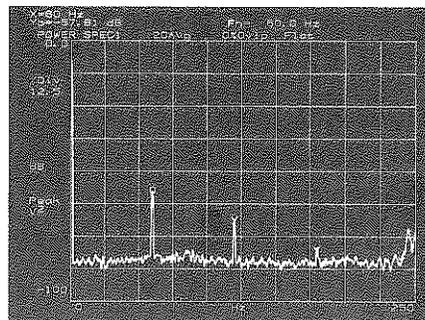

Figure 5-8
4. **Start** Press the yellow **START** key. The demodulation results are displayed as a baseband spectrum as shown in Figure 5-8. Notice that the frequency span of the demodulated spectrum is one-half that of the initial zoom span (this is always the case in demodulation).